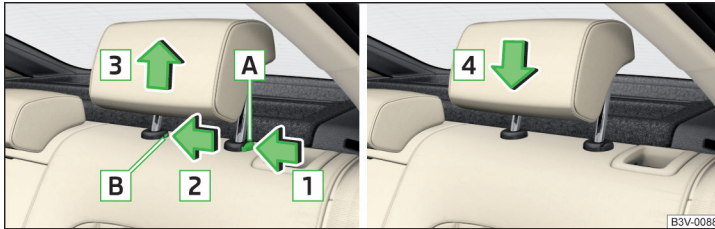

Fig. 99 Removing/inserting the rear headrest
- Hold the locking button **A** in the direction of arrow **1**, at the same time using a flat screwdriver with a max. width of 5 mm to press the locking button in the opening **B** in the direction of arrow **2** and pull out the rest in the direction of arrow **3** » Fig. 99.